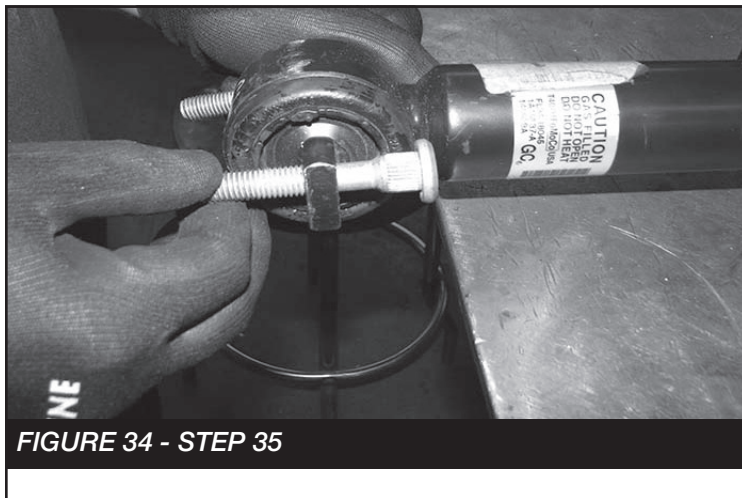

FIGURE 34 - STEP 35
35. Locate the factory coilovers. Using a press, press the factory studs out of the bar pins. **SEE FIGURE 34**